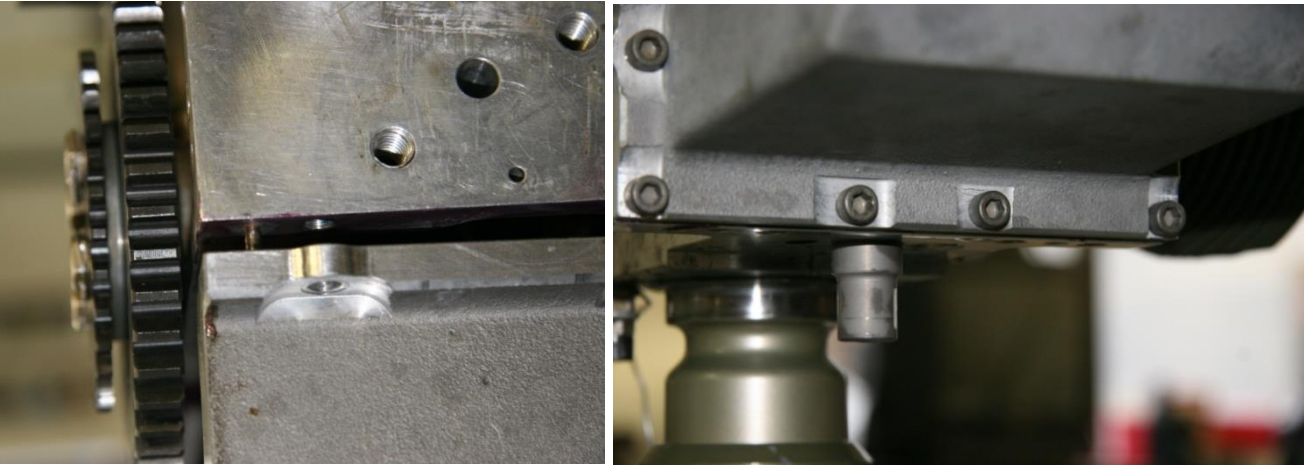

Figure 172 – Fitting Sump
- Fit the sump using cap screws and locating pins as shown in Figure 172. Note that on early engines the length of the screw which is in line with the internal oil pickup is 5/8" long compared to 3/4" for all other locations. Later sumps have a raised boss for this position allowing the longer screw to be used.